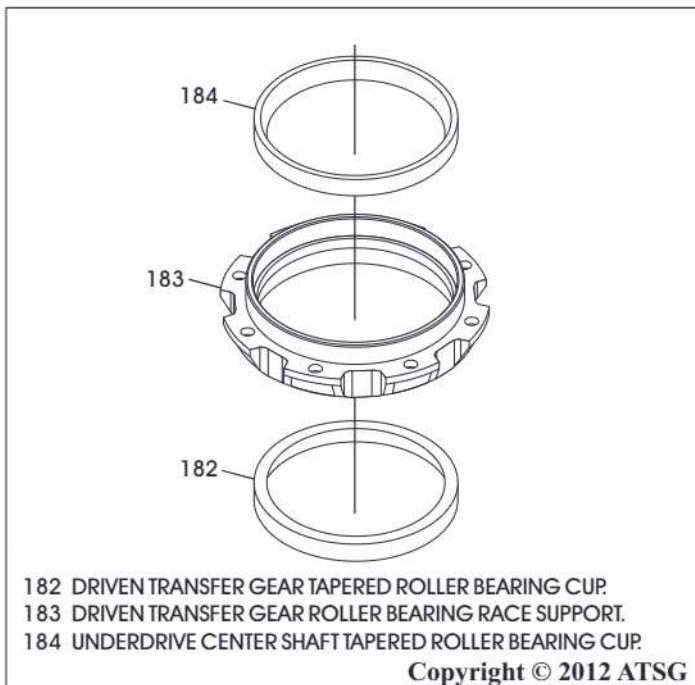

Figure 133
15. If bearing service is needed, replace the tapered roller bearing cups in the driven transfer gear roller bearing support, as shown in Figure 133, using proper adapters and hydraulic shop press.